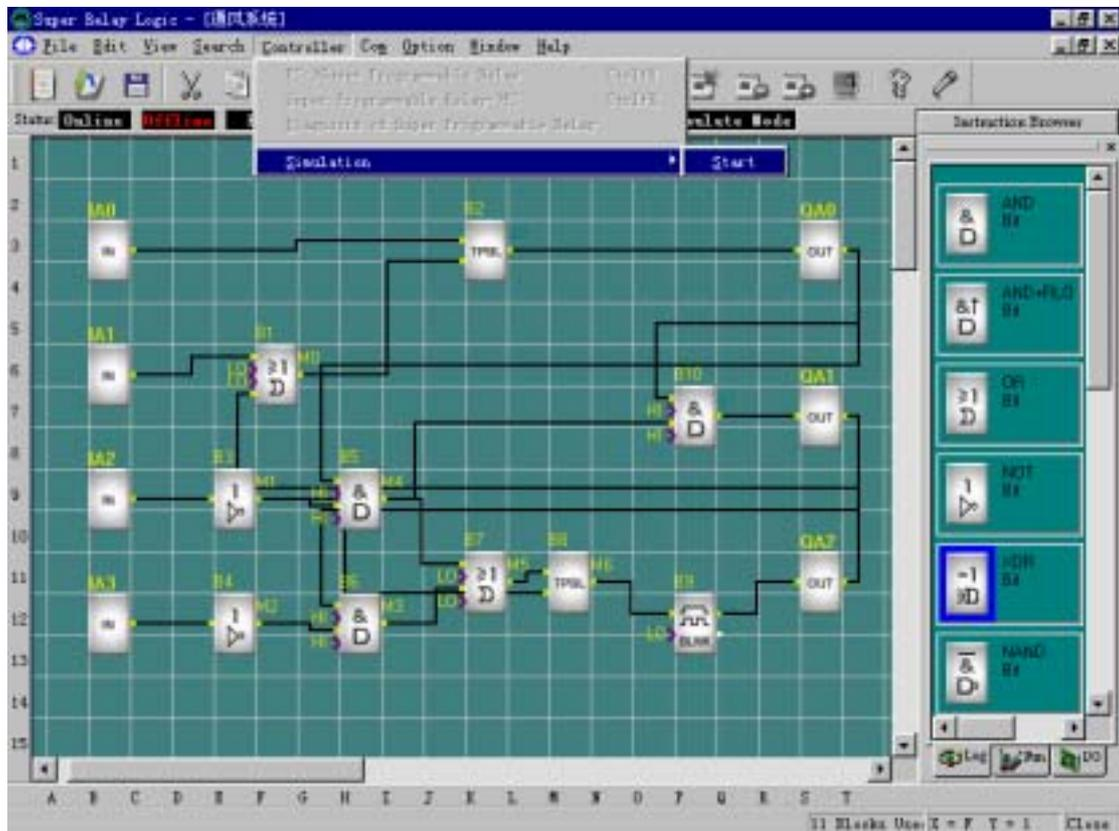
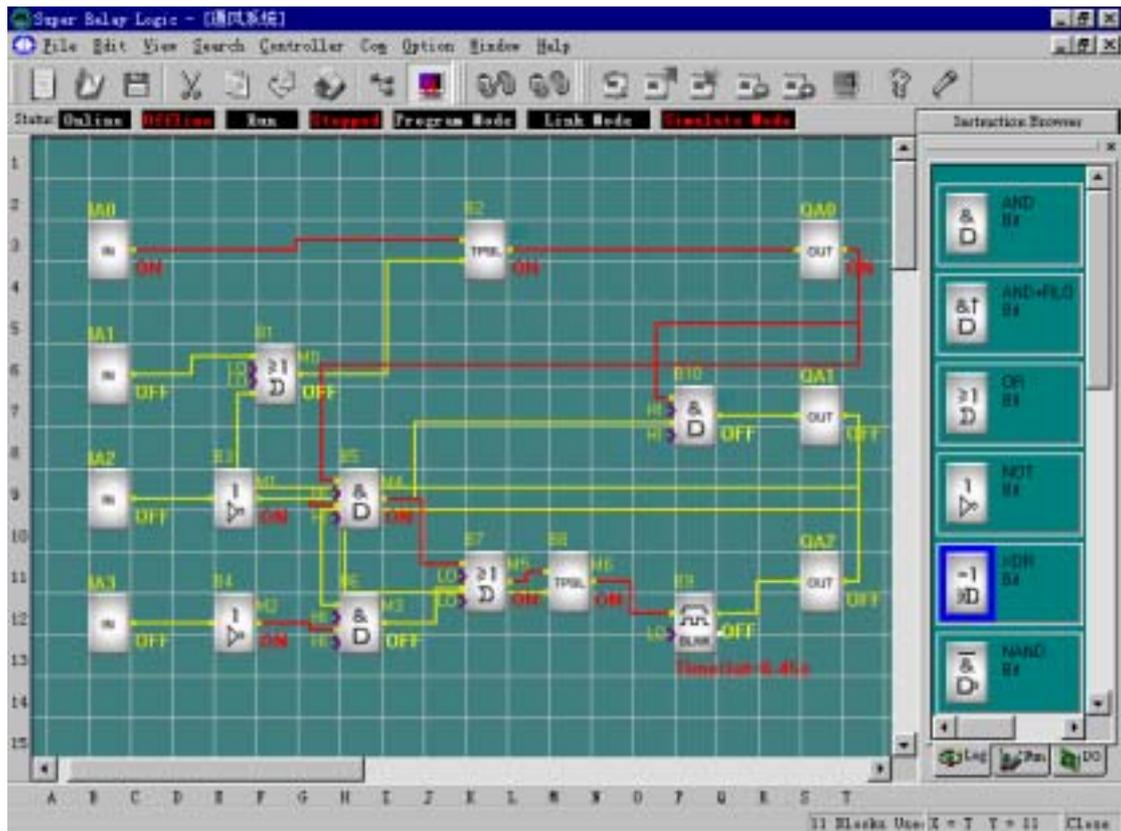

Fig 4.11 Start Simulation
Fig 4.12 Simulation Operation
1. Click “Start” in “Simulation” under the menu “Controller” with left button of the mouse. As shown in fig4.11:It’s time to start programme of simulation, or click “”in the toolbar with mouse, it also can open simulation operation interface.It shows as fig4.12.